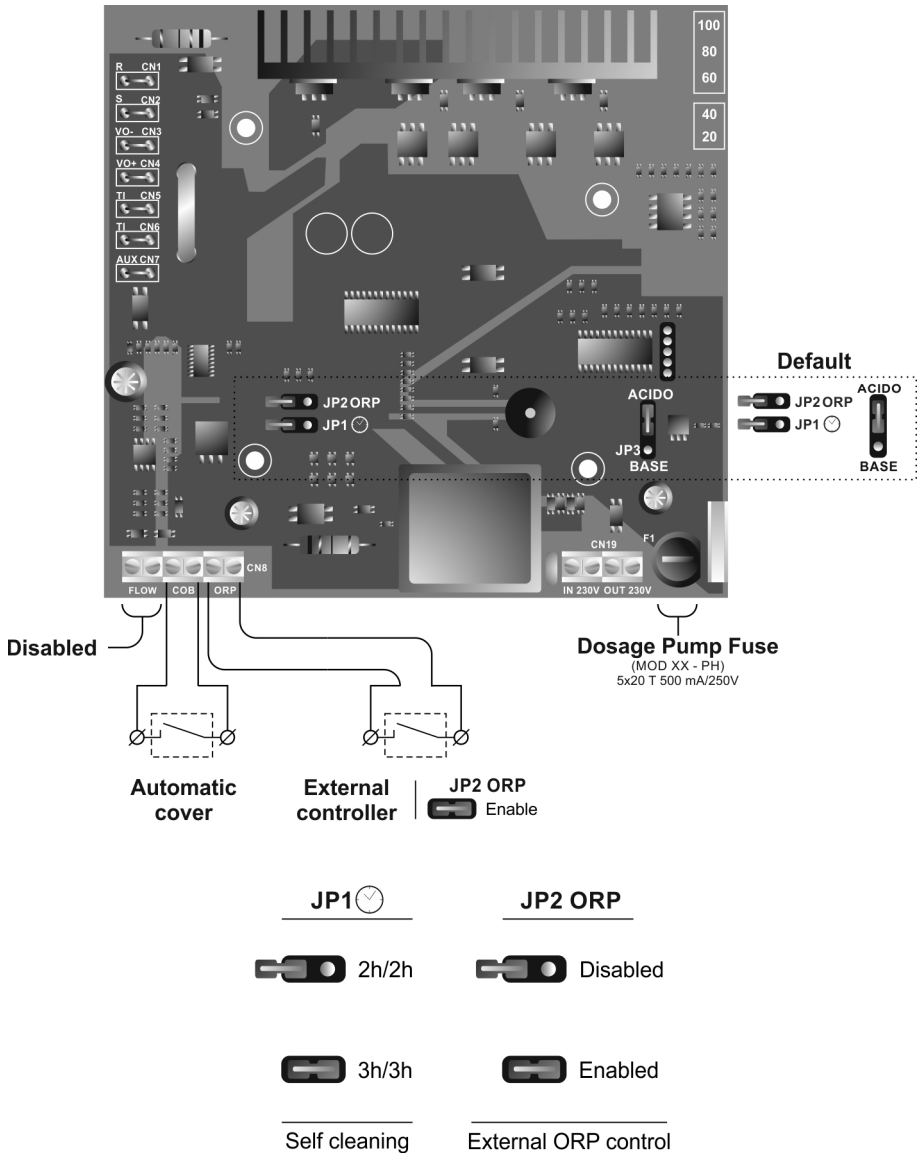

Fig. 11
- **ELECTRODE SELF-CLEANING System:** The reversal frequency can be selected by means of jumper **"JP1"** on the system control panel (Fig. 11). This configuration will become effective by disconnecting and connecting again the equipment.